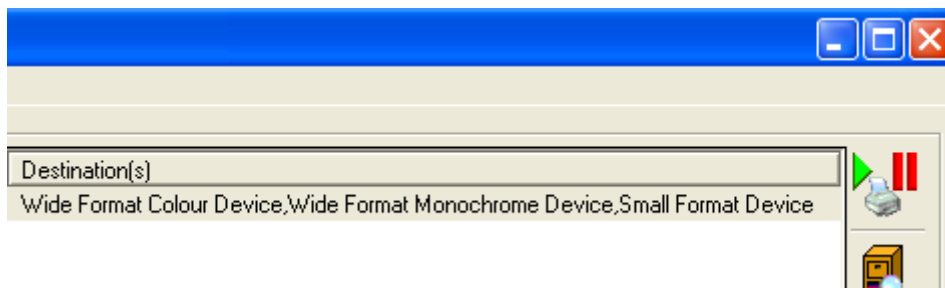

Fig 2.6
- Look to the right side of the listed print job to see the printers identified as the Destination(s) (Figure 2.6) required to print the files according to the rules and workflows created earlier.